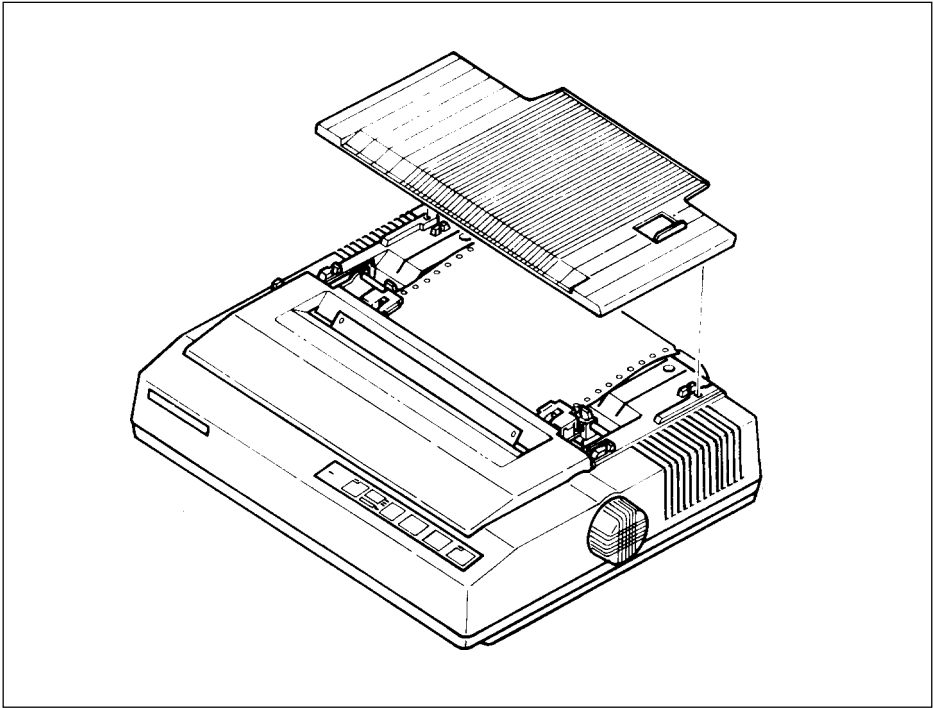

Figure 2-8. Ready to run with sprocket-feed paper.
8. Check that the paper is still positioned correctly, and close the sprocket covers (Figure 2-8)
13. Finally, install the paper guide on the printer (Figure 2-8). Now you're ready to roll!